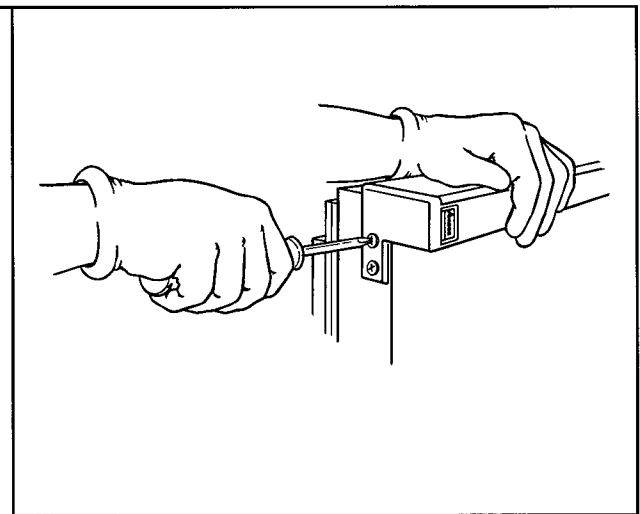

Figure 45
- c. Using a Phillips screwdriver, remove handle screws on bottom side of each handle on both doors. See Figure 45.